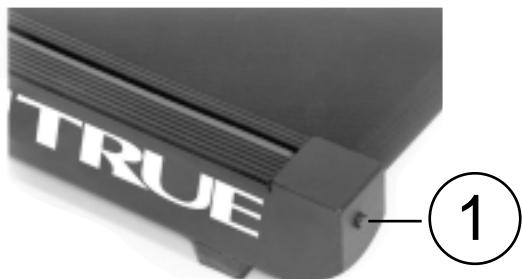

Figure 1
2. If the belt is off-center to the right, turn the left roller adjustment bolt counter clock-wise 1/4 turn. If the belt is off-center to the left, turn the left roller adjustment bolt 1/4 turn clockwise. (Figure 1 Detail 1)